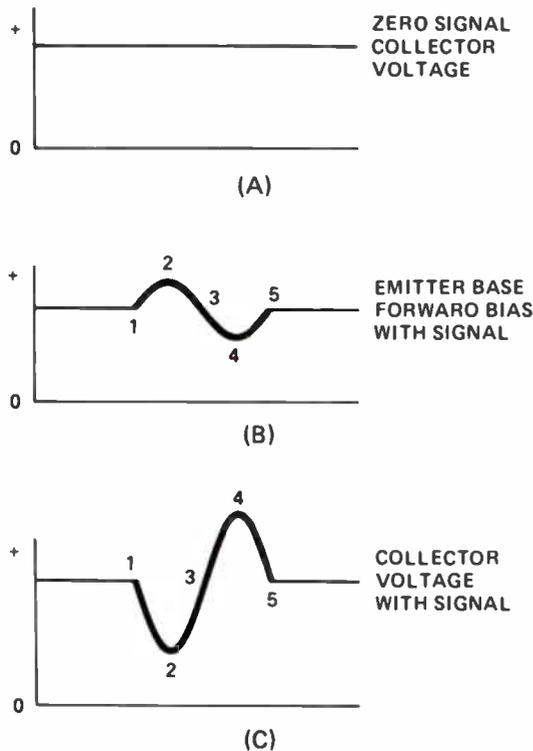

Figure 2. Waveforms for Fig.1(C).
Figure 2(A), on the next page, is a graph representing the collector voltage with zero signal input. That is, in the circuit of Fig.1(C), the generator voltage is 0 volts. The only voltages applied to the transistor are B1 and B2. Under these circumstances, the voltage between the
Figure 2(B) shows what happens to the forward bias across the emitter-base junction when the generator begins to create a signal. The straight line represents the forward bias sup-
plied by  $B_1$ . Let's suppose that starting at point 1 in Fig.2(B), the generator voltage adds to the voltage of  $B_1$ . Starting at point 1, the signal begins swinging in a positive direction until it reaches a maximum at point 2, then drops to 0 at point 3. At point 3 the polarity of the signal from the generator reverses, and begins subtracting from the voltage of  $B_1$ . The forward bias then begins decreasing from point 3 to point 4 where it reaches its lowest value. Then, as the generator voltage begins increasing again, so does the forward bias from point 4 to point 5.
When the positive generator voltage adds to the voltage of  $B_1$ , between points 1 and 3, the emitter current increases because of the increased forward bias. Not only does the current leaving the base and flowing through  $R_1$  increase, but the current reaching the collector and flowing through  $R_2$  increases. This means that the voltage drop across  $R_2$  increases, causing the voltage between the collector and ground to decrease as shown in Fig.2(C). Notice that the relatively larger current flowing through the collector causes the change in voltage between the collector and ground to be much greater than the change in voltage between the base and ground.
When the generator voltage reverses polarity, it subtracts from the voltage applied between the base and emitter by  $B_1$ . Thus the net input voltage goes down. This causes the emitter current to decrease so that not only does the current flowing through  $R_1$  decrease, but the total current flowing through the transistor and through  $R_2$  decreases. When this happens, the voltage drop across  $R_2$  decreases so that the voltage between the collector and ground increases, as shown between points 3 and 4 in Fig.2(C). Again, notice that the change in voltage between the collector and ground is much greater than the change in voltage between the base and ground.